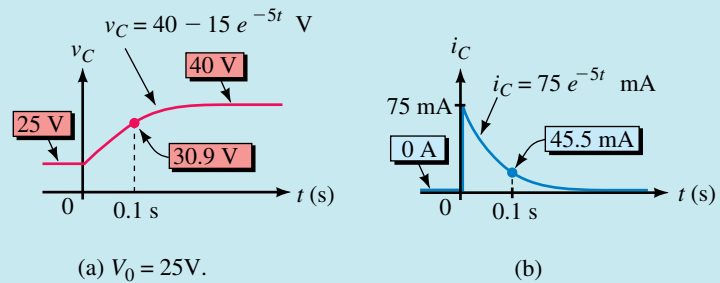

FIGURE 11-17 Capacitor with an initial voltage.
- The waveforms are shown in Figure 11-17 with the above points plotted.
Answers: a. $40 - 190e^{-5t}$ V b. $0.95e^{-5t}$ A c. -75.2 V; 0.576 A d. Curves are similar to Figure 11-17 except that v_C starts at -150 V and rises to 40 V while i_C starts at 0.95 A and decays to zero.